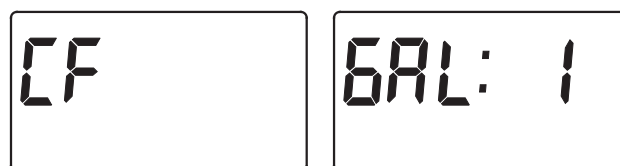
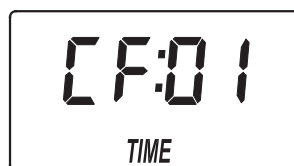

FIG. 29
FIG. 30
4. **CHEMICAL FEEDER TRIP VOLUME:** If you have set the auxiliary output control to CF (Chemical Feeder), you will need to set the volume of water which must flow past the turbine* before the auxiliary output is turned on. With the alternating screens in Fig. 29 shown, use the \triangle UP or ∇ DOWN buttons to set the trip volume, in gallons. Then press the SELECT button to display the screen shown in Fig. 30.